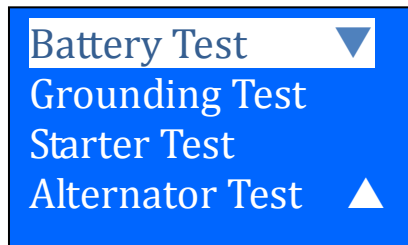

Figure 50
- 4. After you have made your choice, selecting either "New: Clear Memory" or "Continue...Test" will proceed to the display below: (Fig. 50)